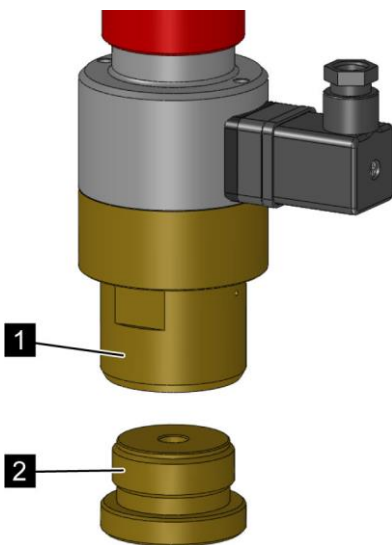

Fig. 22: Resetting the isolation
2. ▶ Screw the screw reset tool (Fig. 22/2) into the electric release device (Fig. 22/1).
3. ▶ Unscrew the screw reset tool (Fig. 22/2) out of the electric release device.